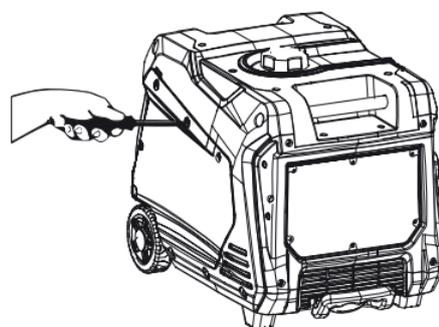

Figure 13: Remove Engine Service Panel
2. Remove the Engine Service Panel to gain access to the air filter (see Figure 13).
1. Remove the Engine Service Panel to access the carburetor (see Figure 13 on page 16).
3. Remove the Engine Service Panel to gain access to the spark plug (see Figure 13 on page 16).